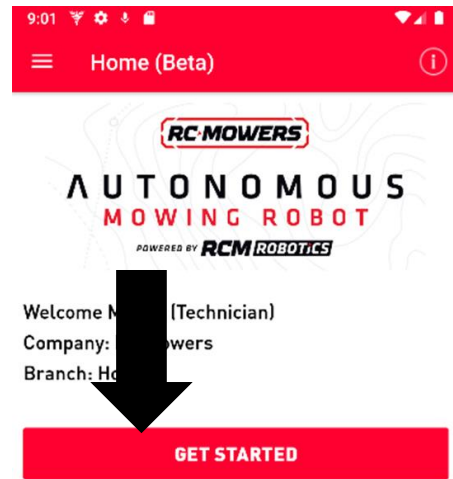

Figure 20
- Open the Mobile App and press “GET STARTED” button to navigate to the “Mow” page (*Figure 20*). If after pressing “GET STARTED” button, the “Connected Machines” page is not showing, press Connect at the top right of the screen.